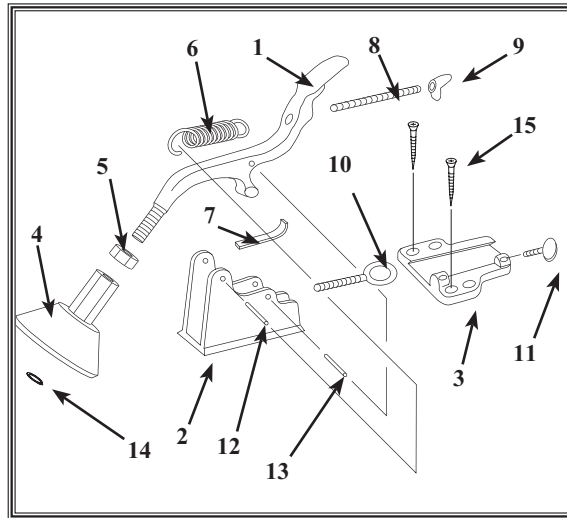
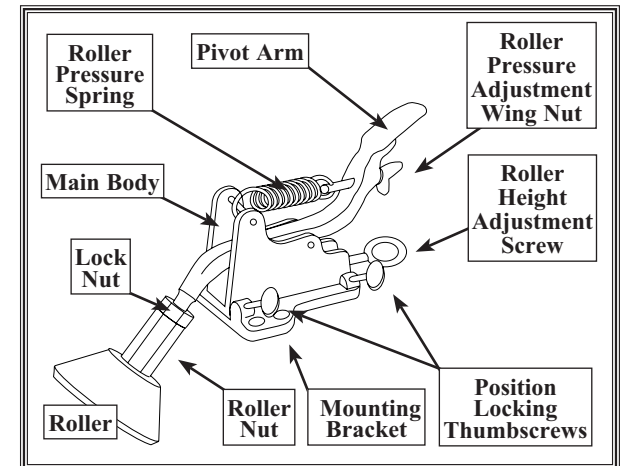

Figure 4. Board Buddy Parts.
Figure 3. Board Buddy Details.
3. Depress the pivot arm (1) and remove the shoe (7). Clean out any foreign material that is preventing the shoe from sliding inside the housing (2). See **Figure 4**.
Use **Figure 4** and the parts list to inventory your package. Your new BOARD BUDDIES® are carefully packed. However, if any part is damaged or missing, contact Woodstock International Service and Support at 1-360-734-3482 or send e-mail to: tech-support@shopfox.biz.
Your BOARD BUDDIES® are partially assembled from the factory; however, some minor assembly and adjustment is required using **Figure 3** and **Figure 4** for reference.
To assemble your BOARD BUDDIES®, see **Figure 4** for item numbers and do these steps: